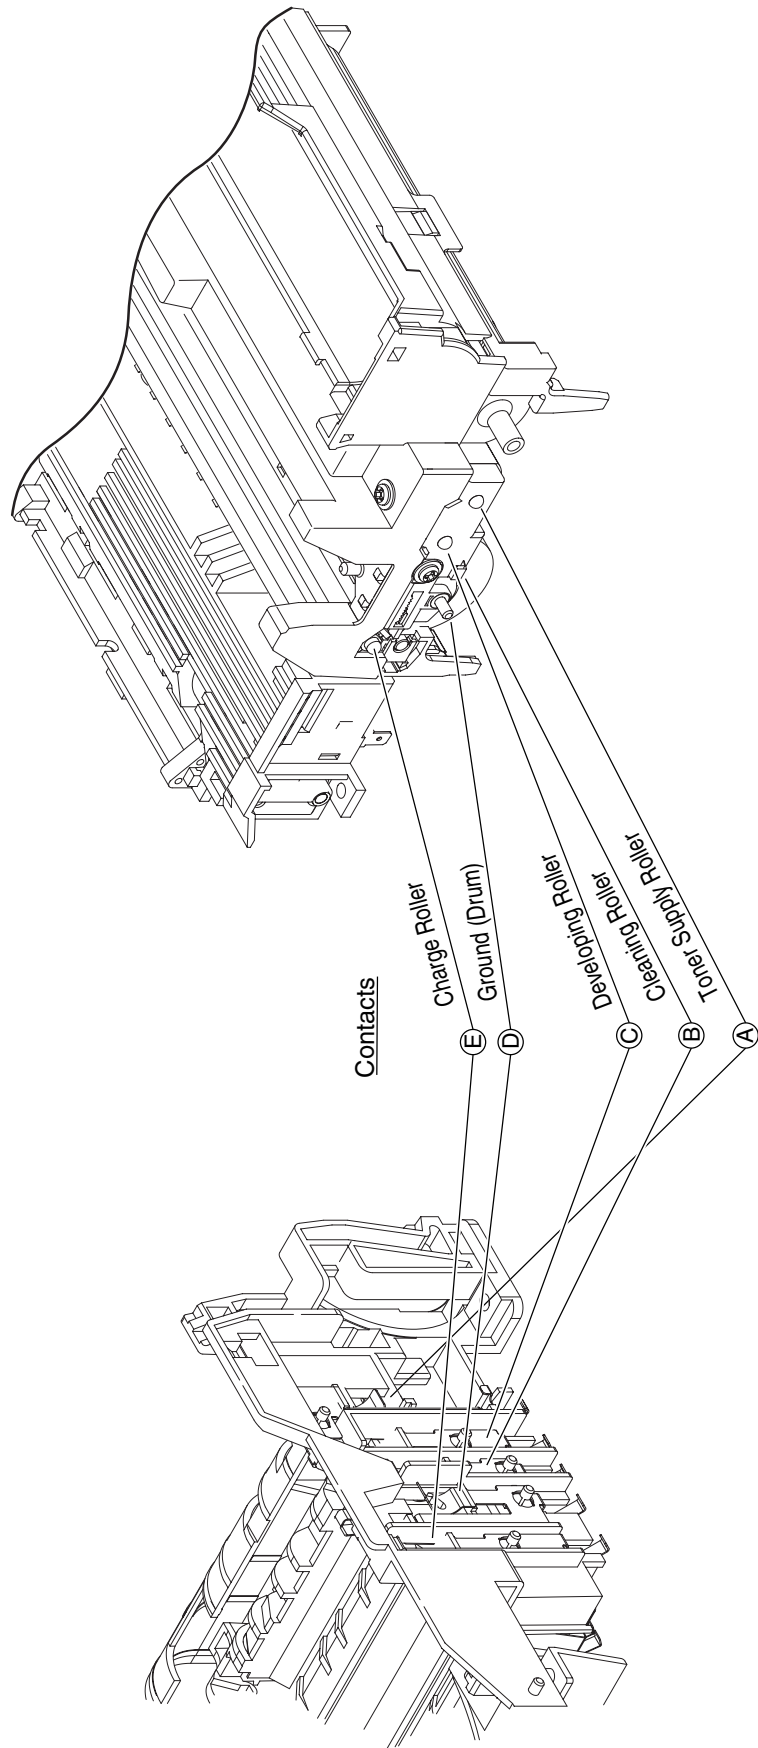

Figure 5-4
- Yes Is the contact of the fusing unit assy in proper contact with the contact assy (see "Figure 5-4" on page 65 - G)?
⑧. White vertical belts or streaks